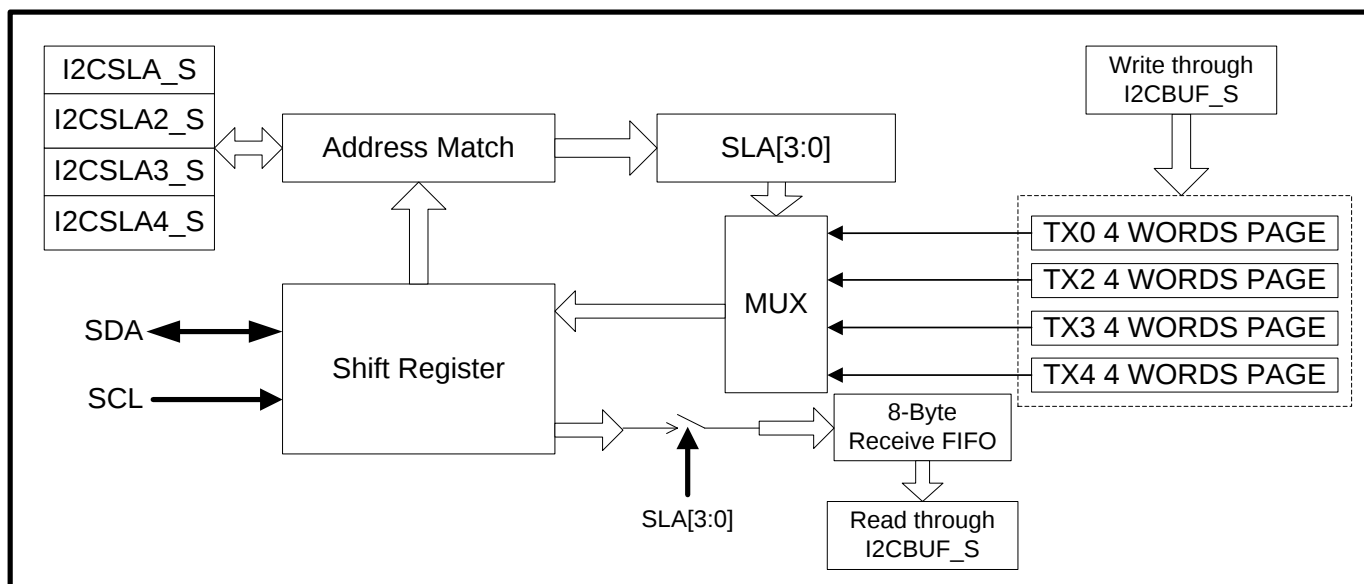

Figure 11-3: I²C Slave Block Diagram with RX FIFO and TX Pages
The DS4830A I²C controller has an 8-byte receive FIFO. This FIFO is shared among the enabled slave addresses. The receive FIFO is controlled using the I2CRXFIE (I²C Receive FIFO Interrupt Enable) and I2CRXST (I²C Receive FIFO Status Flags) registers and is read from the I2CBUF_S register. See the individual bit description in I²C Slave Controller Register Description section. This FIFO is shown in Figure 11-3.
The I²C controller has four Transmit (TX) pages, each dedicated to a specific slave address. Each of the TX pages holds 4 16-bit words. When transmitting data, the controller automatically selects one of the TX pages based upon the SLA[3:0] bits in the CUR_SLA (Current Slave Address) which is set during a successful slave address match event. The TX Pages are filled by first setting the SLA[3:0] bits, then writing data to the I2CBUF_S register. I²C transmission using the TX Pages is controlled using the I2CTXFIE (I²C Transmit Interrupt Enable) and I2XTXFST (I²C Transmit Page Status Flags) registers. See the individual bit description in I²C Slave Controller Register Description section. The TX pages are shown in Figure 11-3.
When TX page is enabled, the SLA[3:0] bits in the CUR_SLA register selects one of the TX pages as shown in Figure 11-3. The I²C controller reads data from the selected TX page and writes to the shift register. When the I²C controller is transmitting data, the threshold interrupt flag (THSH) in the I2CTXST register will be set when there are 4 bytes are remaining. This can generate an interrupt, if enabled.